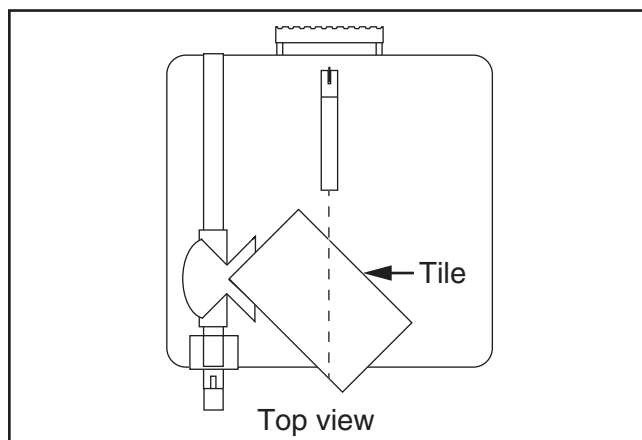

Figure 26. Tile ready for miter cut.
7. Ensure blade is wet, then push tile through cut (see **Figure 26**).